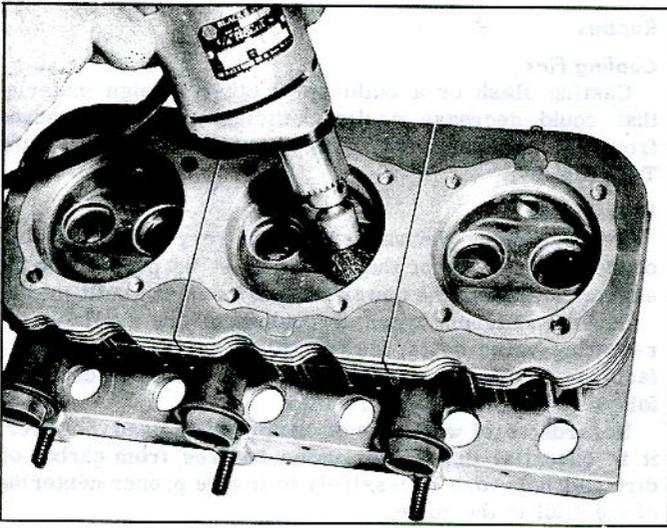

Fig. 80—Removing Carboq from Combustion Chamber
1. Clean carbon from combustion chambers and ports using Tool J-8358 (fig. 80).